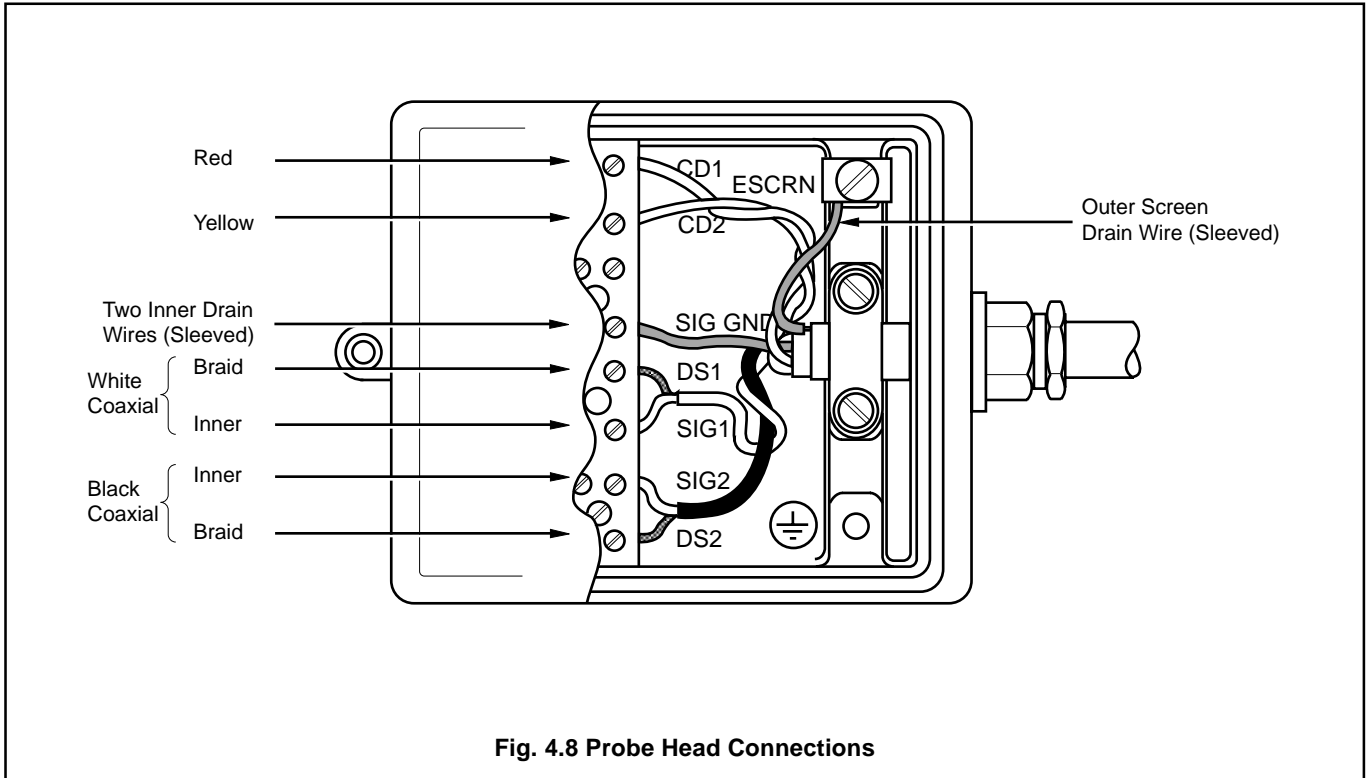

Fig. 4.8 Probe Head Connections
4.6 Probe Head Connections – Fig. 4.8